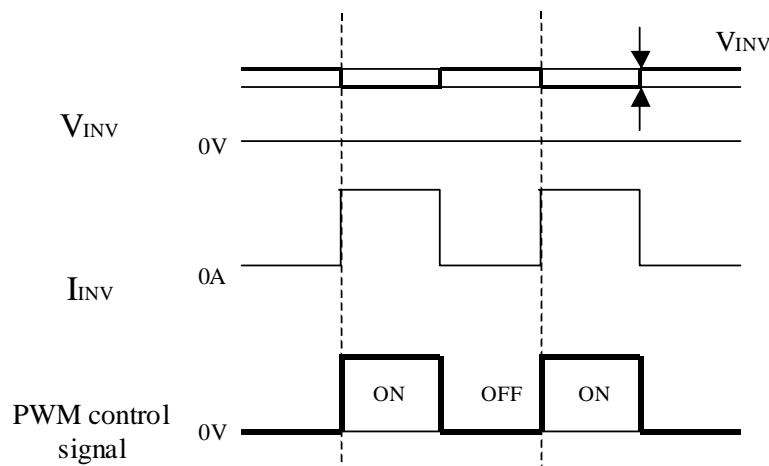

Fig.4 Brightness control voltage.
- Brightness control voltage is switched for "ON" and "OFF", as shown in Fig.4. Voltage difference generated by this switching,  $V_{INV}$ , may affect a sound output, etc. when the power supply is shared between the inverter and its surrounding circuit. So, separate the power supply of the inverter circuit with the one of its surrounding circuit.